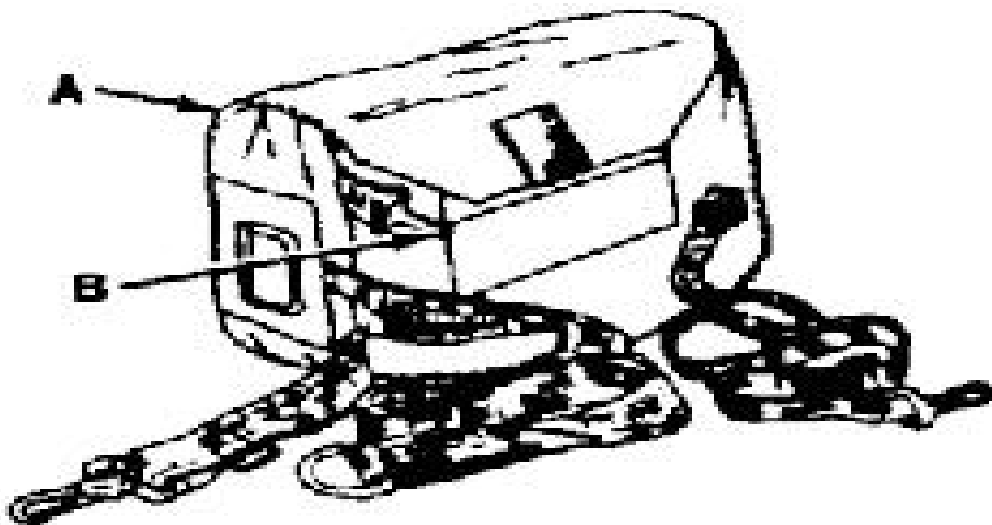

Figure E-71. Mask carrier.
j. Hang the carrier (A in figure E-71) by the hook (B in figure E-71) on the short strap.